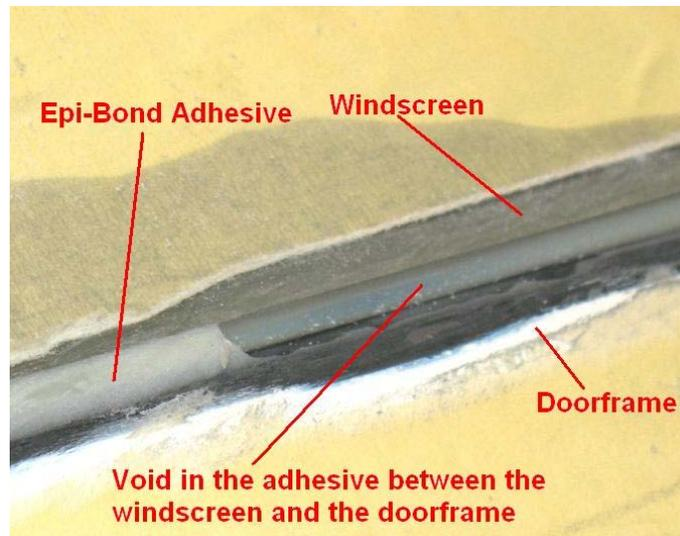

Figure 56-13 Photograph Showing a Void in the Epi-Bond
28. Inspect along the entire edge of the windscreen and look for any voids in the adhesive, see Figure 56-13. If the adhesive has not come all the way to the edge and there is good adhesion between the doorframe and windscreen, fill the void area with a small amount of the Epi-Bond® adhesive.